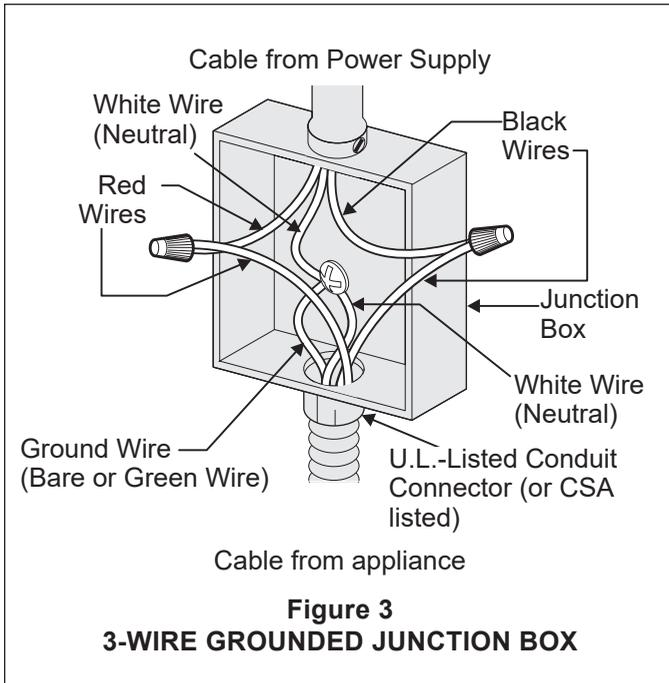
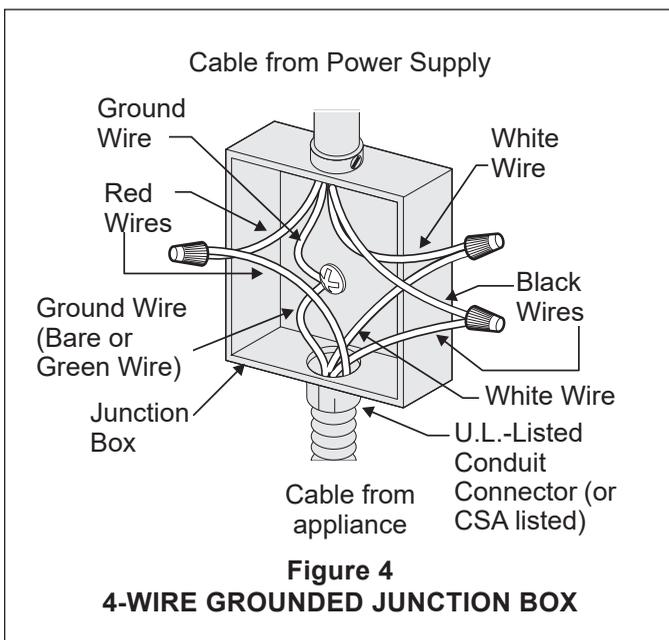

Figure 3
Figure 4
This appliance is manufactured with a white neutral power supply and a frame connected copper wire. The frame is grounded by connection of grounding lead to neutral lead at the termination of the conduit, if used in USA, in a new branch circuit installation (1996 NEC), mobile home, recreational vehicles, where local code do not permit grounding through the neutral (white) wire or in Canada, disconnect the white and green lead from each other and use ground lead to ground unit in accordance with local codes, connect neutral lead to branch circuit-neutral conductor in usual manner see Figure 4. If your appliance is to be connected to a 3 wire grounded junction box (US only), where local code permit connecting the appliance-grounding conductor to the neutral (white) see Figure 3.
Where local codes permit connecting the appliance-grounding conductor to the neutral (white) wire (US Only) (see figure 3):
connect appliance and power supply cable wires as shown in Figure 3.
If oven is used in a new branch circuit installation (1996 NEC), mobile home, recreational vehicle, or where local codes DO NOT permit grounding through the neutral (white) wire, the appliance frame **MUST NOT** be connected to the neutral wire of the 4-wire electrical system. (see figure 4):
3. In the junction box: connect appliance and power supply cable wires as shown in Figure 4.